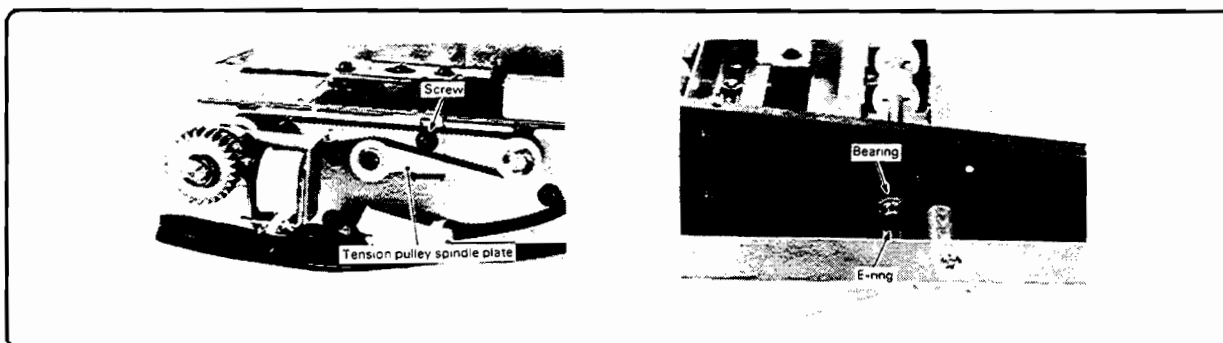

Figure 6-156. Spindle Plate and Front Bearing
3. Loosen the screw holding the tension pulley spindle plate (Figure 6-156).
4. Remove the E-ring and remove the front bearing (Figure 6-156).